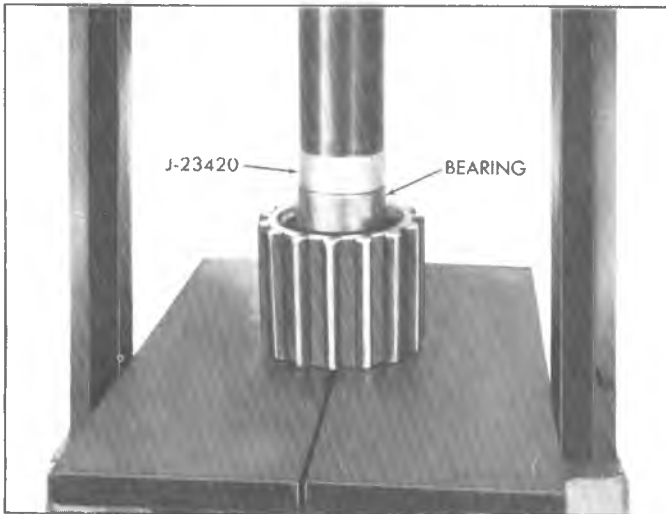

Fig. 8D-Installing Rear Output Shaft Pilot Bearing
- Press new pilot bearing in bore of rear output shaft with bearing identification facing out using Tool J-23420 as shown in Figure 8D.